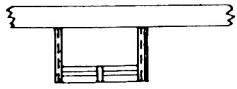

Figure 4
2. Remove the fronts of the stowage bins from the sprue, clean up and trim if necessary and glue to the fronts of the stowage bins, using Figure 4 as a reference.